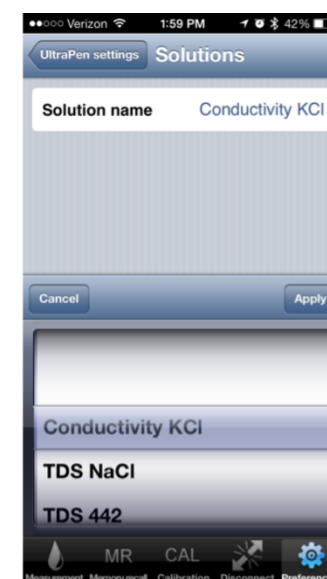

Figure 11
7. The PTBT1 Solution Mode picker will appear (Figure 11) with the following choices: